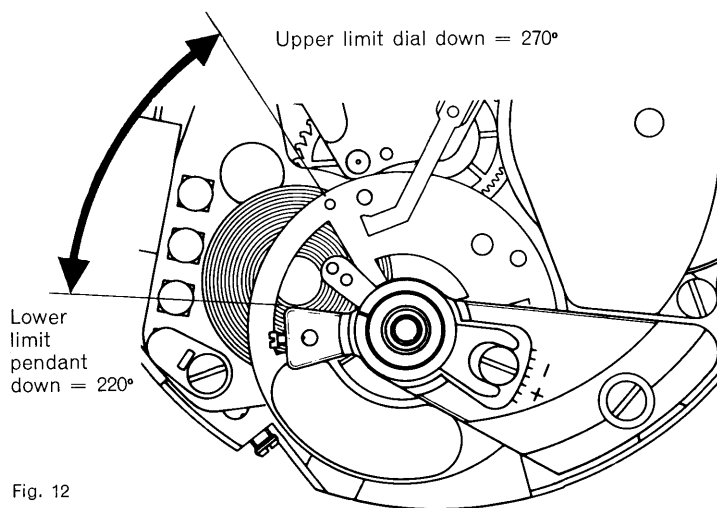

Fig. 12
- 16.1. For a movement that is in order and is fitted with a cell giving a voltage of 1.35 V, the balance amplitude should lie between the following limits: fig. 12.